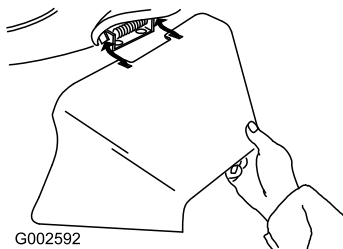

Figure 39
3. Install the side discharge chute and close the door onto the chute (Figure 39).